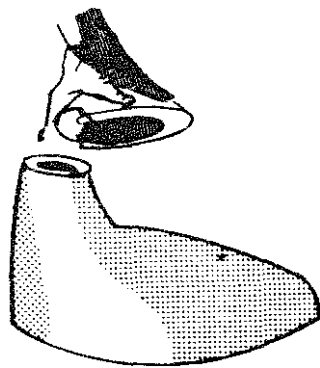

FIGURE 9. MOUNTING THE TRAP CORE.
3. A concrete core for shaping the inside of the water-seal trap (see Figure 9).
Cover the bowl core with a 1:2 cement-sand mixture to a total thickness of 12.5mm (1/2"). Make a smooth lip on the cement 10mm (3/8") from the top of the bowl core as in Figure 9. This Lip is your water seal. Use fairly dry cement; let it set for 15 minutes before cutting the lip.
Place the trap core on the bowl core and seal the crack with clay. Also add a little clay on each side of the form (near the thumb in Figure 9) to prevent cement from getting to the front lip.